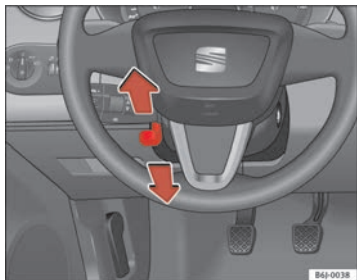

Fig. 102 Steering column height adjustment
- Push the lever under the steering column ⇒ fig. 102 down ⇒ .
- Adjust the steering wheel until the correct position is set ⇒ fig. 102.
- Adjust the driver seat or steering wheel so that there is a distance of at least 25 cm between the steering wheel and your chest ⇒ fig. 102. If you fail to observe the minimum distance, the airbag will not protect you. Risk of fatal injury.